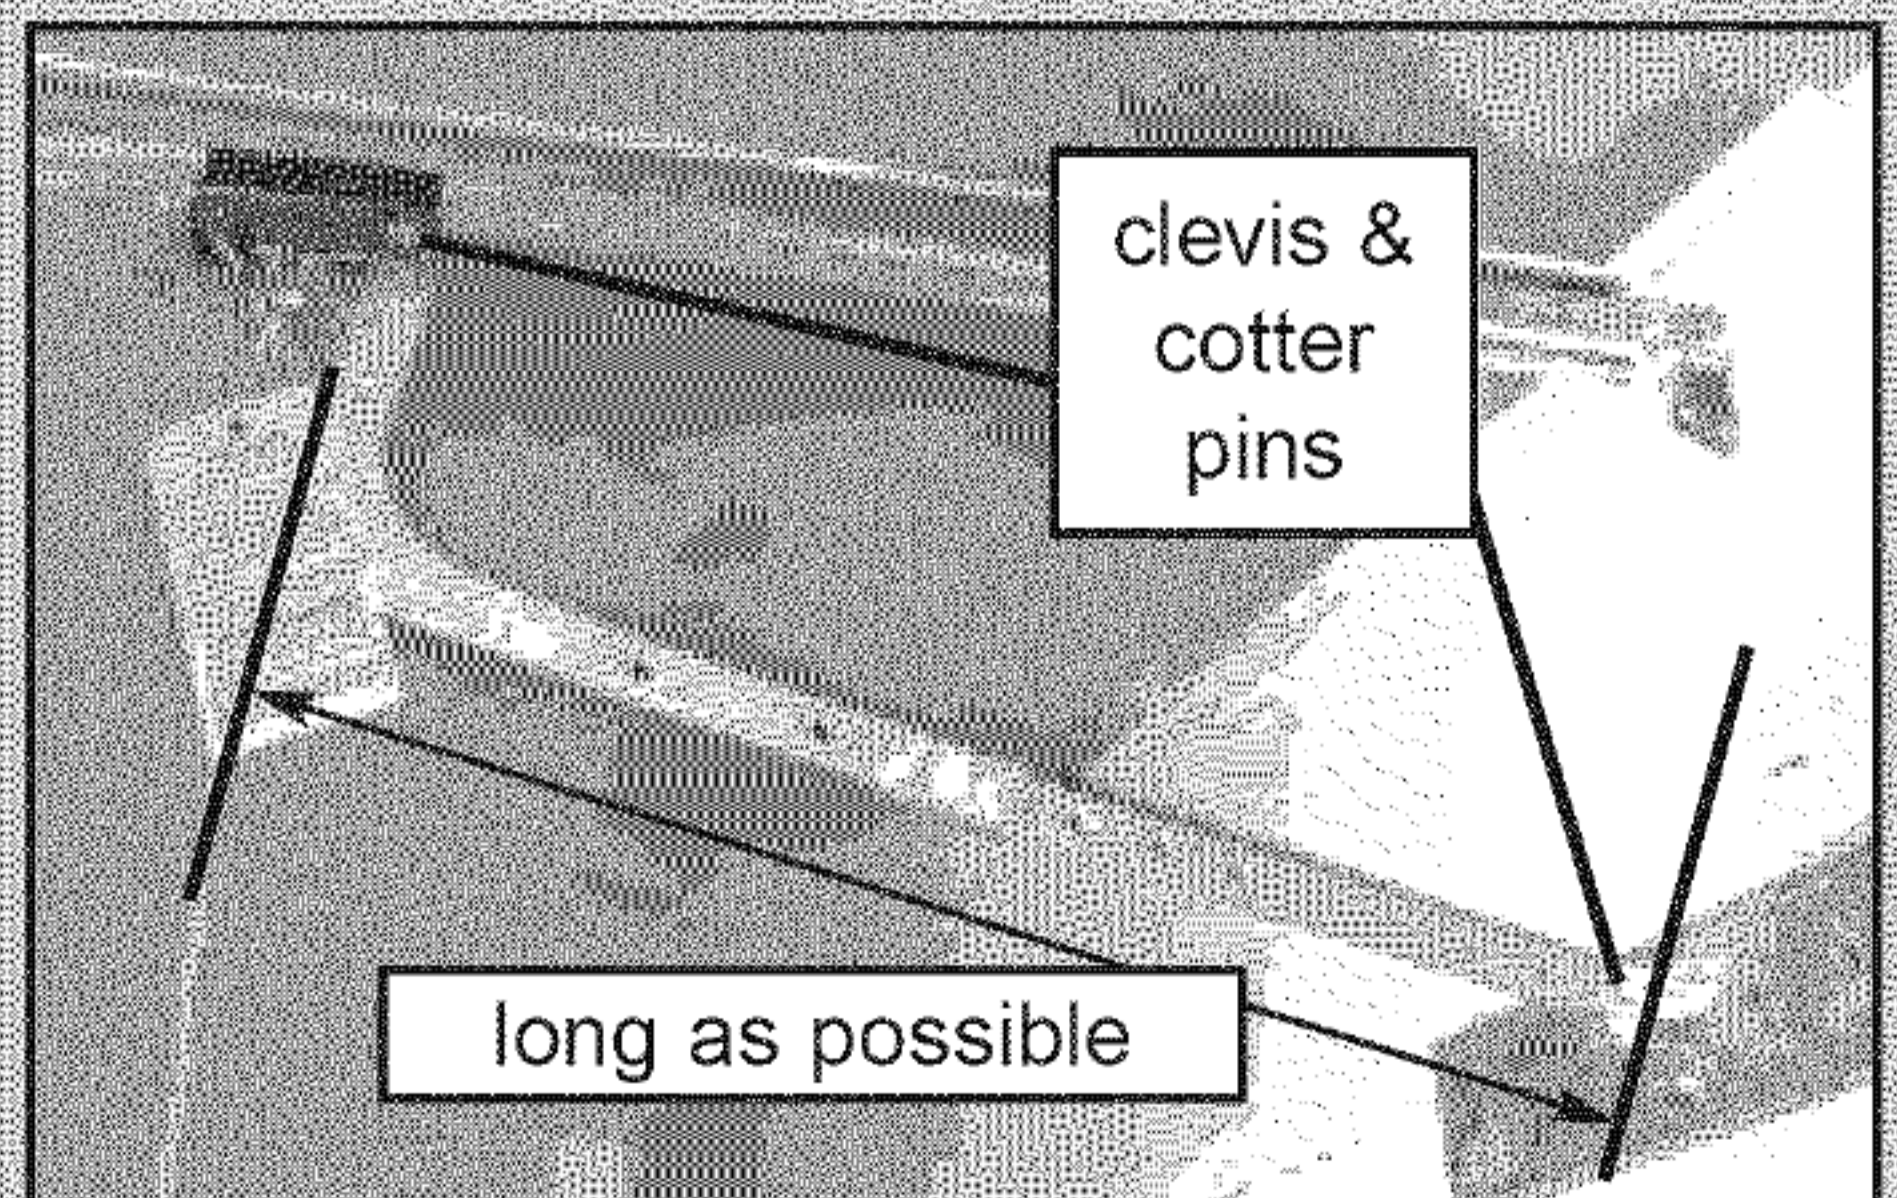

FIG. 2-12 Attaching door arms (1-piece doors)
- Straight arm to door bracket using clevis pin (24) and cotter pin (25) (Fig. 2-12).
- Curved arm to carriage using clevis pin (24) and cotter pin (25) (Fig. 2-12).
- Fasten arms together using 2 bolts (27) and nuts (28) (Fig. 2-12).